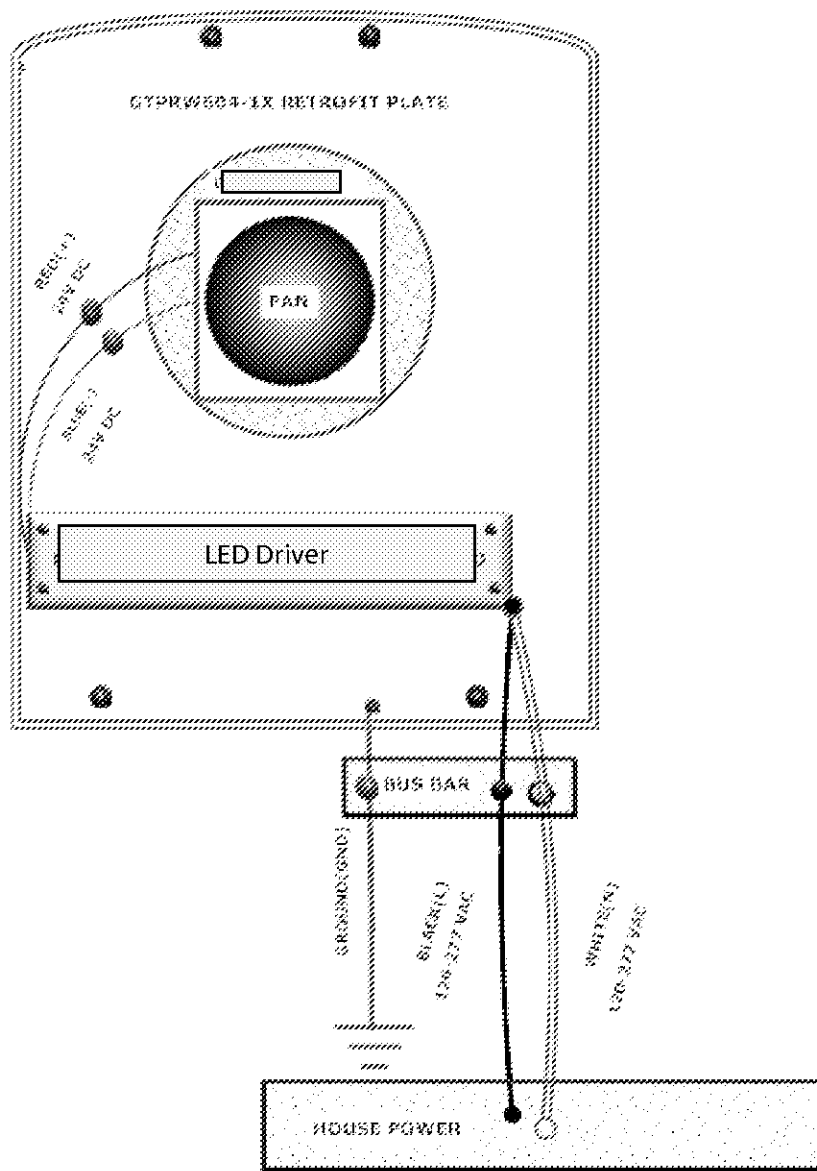

Figure 7
13. Connect the White (NEUTRAL) House Power to the bus bar located inside of the fixture as shown in Figure 7.
14. Connect the Black (HOT) House Power to the bus bar located inside of the fixture as shown in Figure 7.
15. Connect the Green (GROUND) House Power to the bus bar located inside of the fixture as shown in Figure 7.